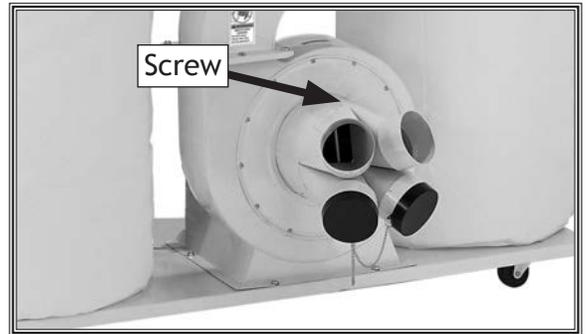

Figure 19. Inlet secured.
17. Secure the inlet in place with the Phillips head screw (see **Figure 19**).